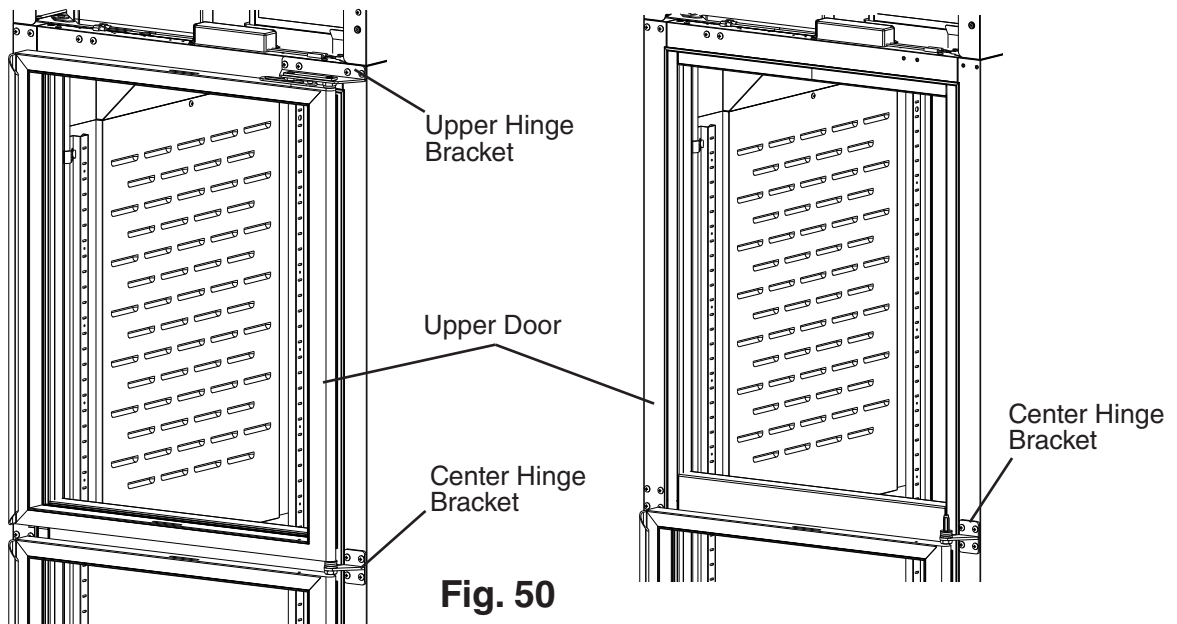

Fig. 50
- 8) Close the upper door, while maintaining a hold on the door, remove the upper hinge bracket, then lift the door off the center hinge bracket upper pin and set aside. See Fig. 50. Retain the upper door thrust washer and the center hinge bracket thrust washers and washer for opposite side hinge bracket installation. **NOTICE! Thrust washers must be in place to prevent wear and damage to the hinge brackets.**